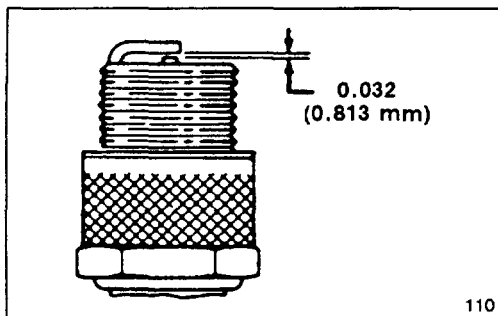

Figure 17
3. Set air gap at 0.032" (0.8 mm) (Fig. 17). Install correctly gapped spark plug and gasket seal. Tighten plug firmly to 15 ft-lb (20 N·m).